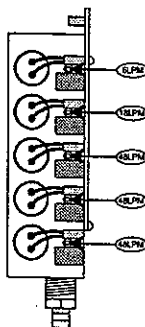

Figure 1
- 4.4 Locate the solenoid plugged into J1. This is the solenoid for the 6 LPM valve assembly (see Figure 1). Disconnect the Solenoid power cable at J1 on the Blender Circuit Board.